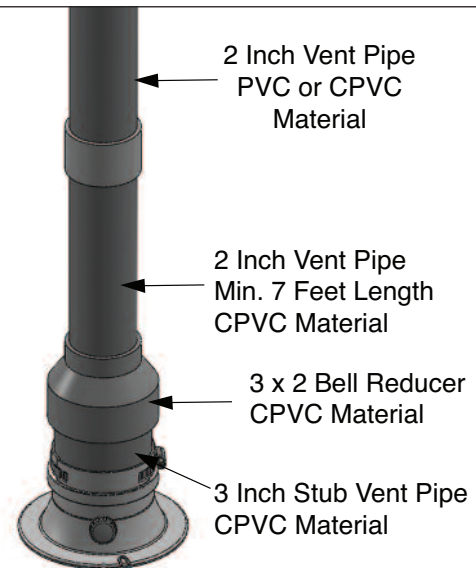

Fig. 33: 2" CPVC/PVC Venting System Vertical
- Use a 3 x 2 bell reducer to make the transition to 2" CPVC/PVC vent, see Figures 33 and 34.